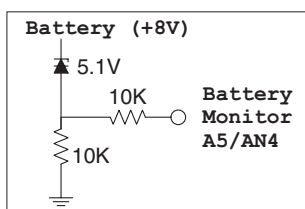

FIGURE 8. Battery Monitor
■ Pin 3 (port A5) is connected to the battery monitor (Figure 8). Using the regulated +5V as a reference, the PIC Analog to Digital (A/D) converters can measure voltages from 0 to 5V. Since the electronics will stop working at about 6V, and the max battery voltage peaks at less than 9V, we need to scale the voltage range. By using a 5.1V zener diode, we are able to drop the measured battery voltage range from 9V-6V down to 4V-1V, nicely within the range of the PIC A/D.